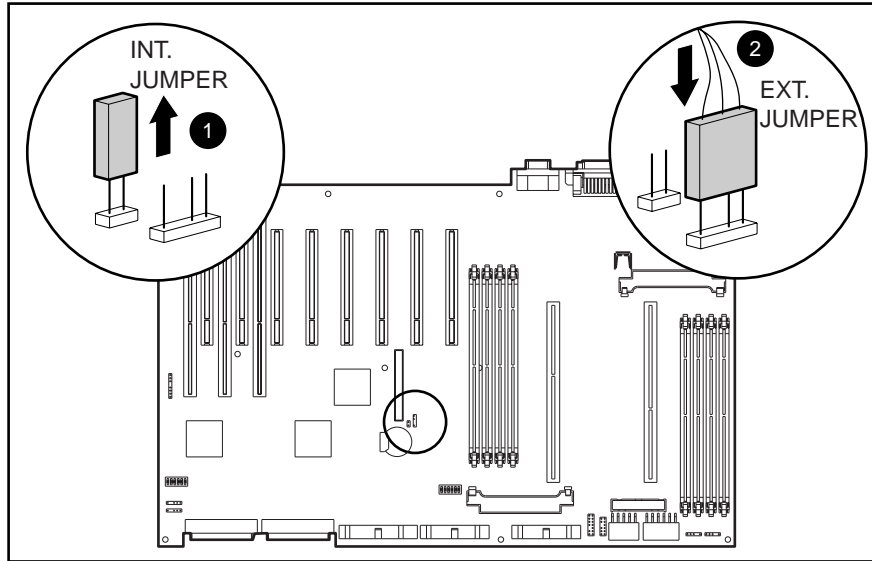

Figure 4-8. Battery jumper location and default settings
The external battery jumper for ProLiant 3000 Servers is located on the system I/O board. Figure 4-8 shows the configuration when using an internal battery ❶ or an external battery ❷.